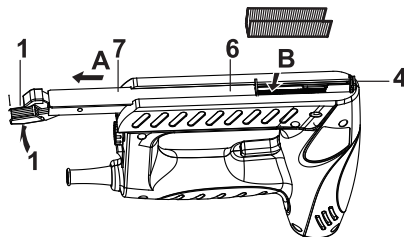
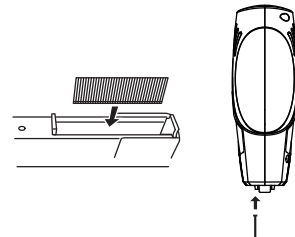

Fig. 4
Fig. 5
- > Switch off and unplug before insert nails, turn tool upside down (Fig. 4).
- > Press lever (1) while pulling state nail guage (7) backwards.
- > Insert the staple/nail strip into magazine (6) with points facing upward (maximum capacity 100 staples).
- > Push into magazine state nail guage (7) against nailer/stapler head (4) until it snap locks.
- > When inserting a nail strip tilt the tool in such a way, that the nail strip rests against the magazine side which corresponds with the nail symbol on nailer/stapler head (4) (Fig. 5) nail points upward.